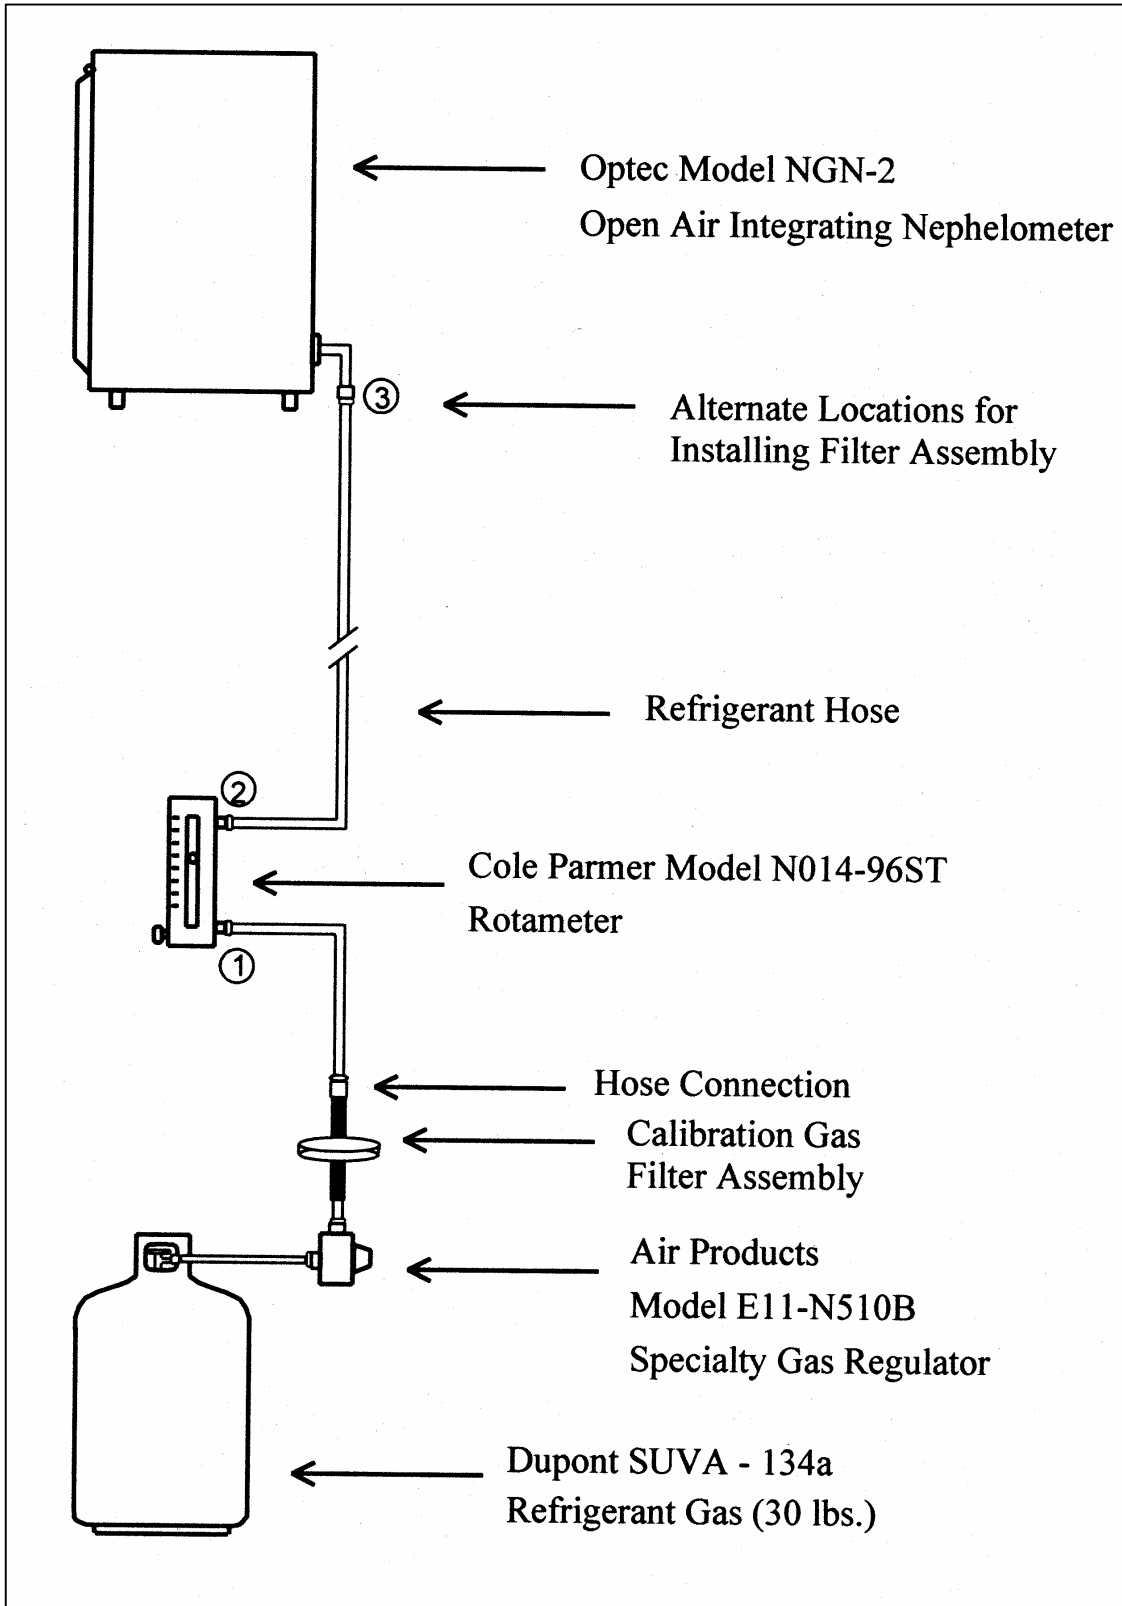

Figure 3-1. Manual Span Gas Calibration/Audit Configuration for the Optec NGN-2 Nephelometer (Type 1).
- Calibration gas hoses and fittings to connect the tank, regulator, flowmeter, and nephelometer (refer to Figure 3-1). The hoses must be compatible with SUVA-134a.